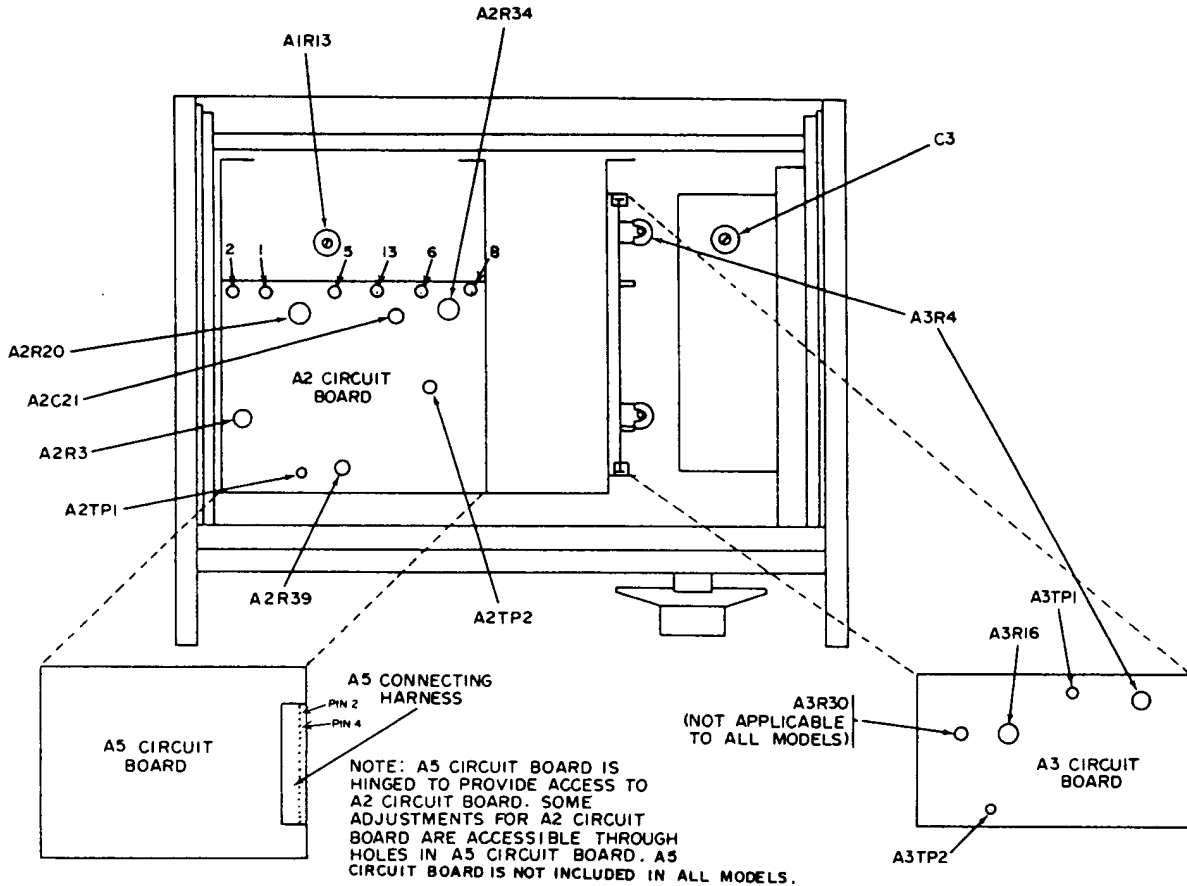
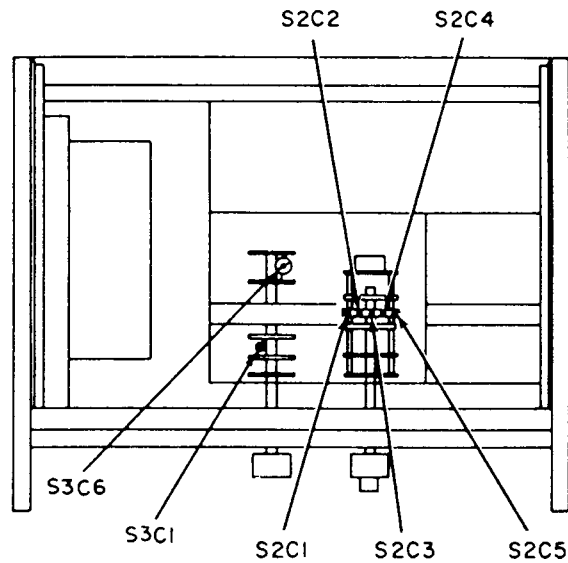

Figure 1. Distortion analyzer - top view.
Figure 2. Distortion analyzer - bottom view.
- (1) Adjust calibrator frequency for 400 Hz and 0.001 V output.
(2) Adjust A2R34 (fig. 1) for 0.001 V indication on TI voltmeter (R).
(1) Set **METER RANGE** switch to **.01 VOLTS**.
(2) Adjust calibrator frequency to 1 kHz and amplitude for a 0.01 V indication on TI meter. Set the reference level on calibrator by pressing the **NEW REF** key.
(3) Adjust calibrator frequency to 2 MHz and output amplitude for 0.0% error display reading.
(4) Adjust A2R39 (fig. 1) for a 0.01 V indication on TI meter (R).
(5) Adjust calibrator frequency to 3 MHz and output amplitude for 0.0% error display reading.
(6) Adjust A2C21 (fig. 1) for a 0.01 V indication on TI meter (R).
(7) Repeat (3) through (6) above as necessary to correct for any interaction between adjustments.
(8) Set **METER RANGE** switch to **.3 VOLTS**.
(9) Adjust calibrator frequency to 1 kHz and amplitude control for a 0.3 V indication on TI meter. Set the reference level on calibrator by pressing the **NEW REF** key.
(10) Adjust calibrator frequency to 2.5 MHz and amplitude for 0.0% error display reading.
(11) Adjust S3C6 (fig. 2) for a 0.3 V indication on TI meter (R).
(12) Set **METER RANGE** switch to **3 VOLTS**.
(13) Adjust calibrator frequency to 1 kHz and amplitude control for a 3 V indication on TI meter. Set the reference level on calibrator by pressing the **NEW REF** key.
(14) Adjust calibrator frequency to 200 kHz and output amplitude for 0.0% error display reading.
(15) Adjust S3C1 (fig. 2) for a 3 V indication on TI meter (R).